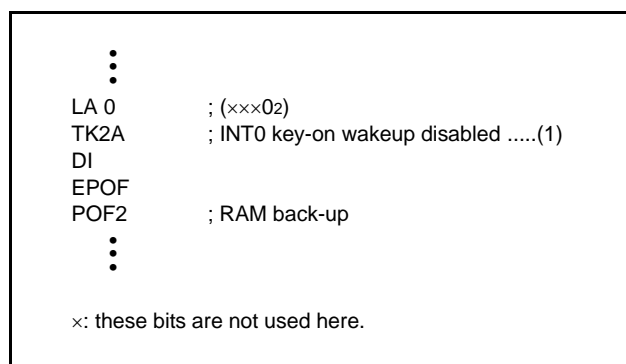

Fig 30. External 0 interrupt program example-2
- When the INT pin input is disabled (register I13 = "0"), set the key-on wakeup of INT pin to be invalid (register K20 = "0") before system enters to power down mode. (refer to (1) in Figure 30.).